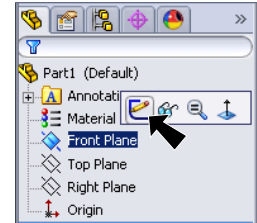
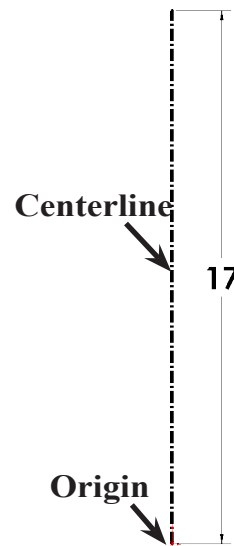

Fig. 1
Fig. 2
Step 2. Click **Front Plane**  in the Feature Manager and click **Sketch**  from the Content toolbar, **Fig. 1**.
Step 3. Click **Centerline**  (S) in the **Line flyout**  on the Sketch toolbar.
Step 4. Starting at the Origin , draw a vertical centerline up from the Origin, **Fig. 2**.
Step 5. Click **Smart Dimension**  (S) on the Sketch toolbar.
Step 6. Dimension the centerline **17**, **Fig. 2**.
Step 7. Click **Zoom to Fit**  (F) on the View toolbar.
Step 8. Click **Centerline**  (S) on the Sketch toolbar.